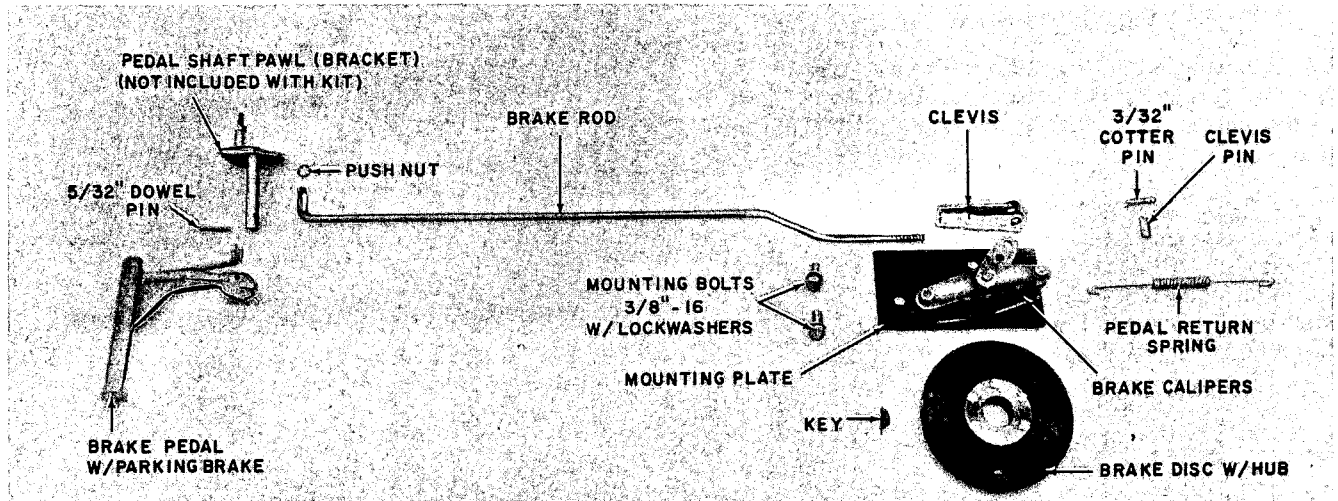

Fig. 1
4. Place the short, bent end of the new brake rod in the hole provided on the pedal shaft unit. (See Fig. 1.) Apply the push-nut over the end of the brake rod such that 1/4 inch remains between the push-nut and the end of the rod.
2. Remove the cotter pin from the brake clevis pin. See Fig. 1.
If adjustment is necessary, locate the brake switch mounted on the underside of the frame immediately to the right of the brake pedal. Notice that the switch is actuated when its lever arm is deflected as the brake pedal is depressed. During this actuation, the lever arm rides on a shoulder bolt mounted on a slotted pawl. (See Fig. 1.) It